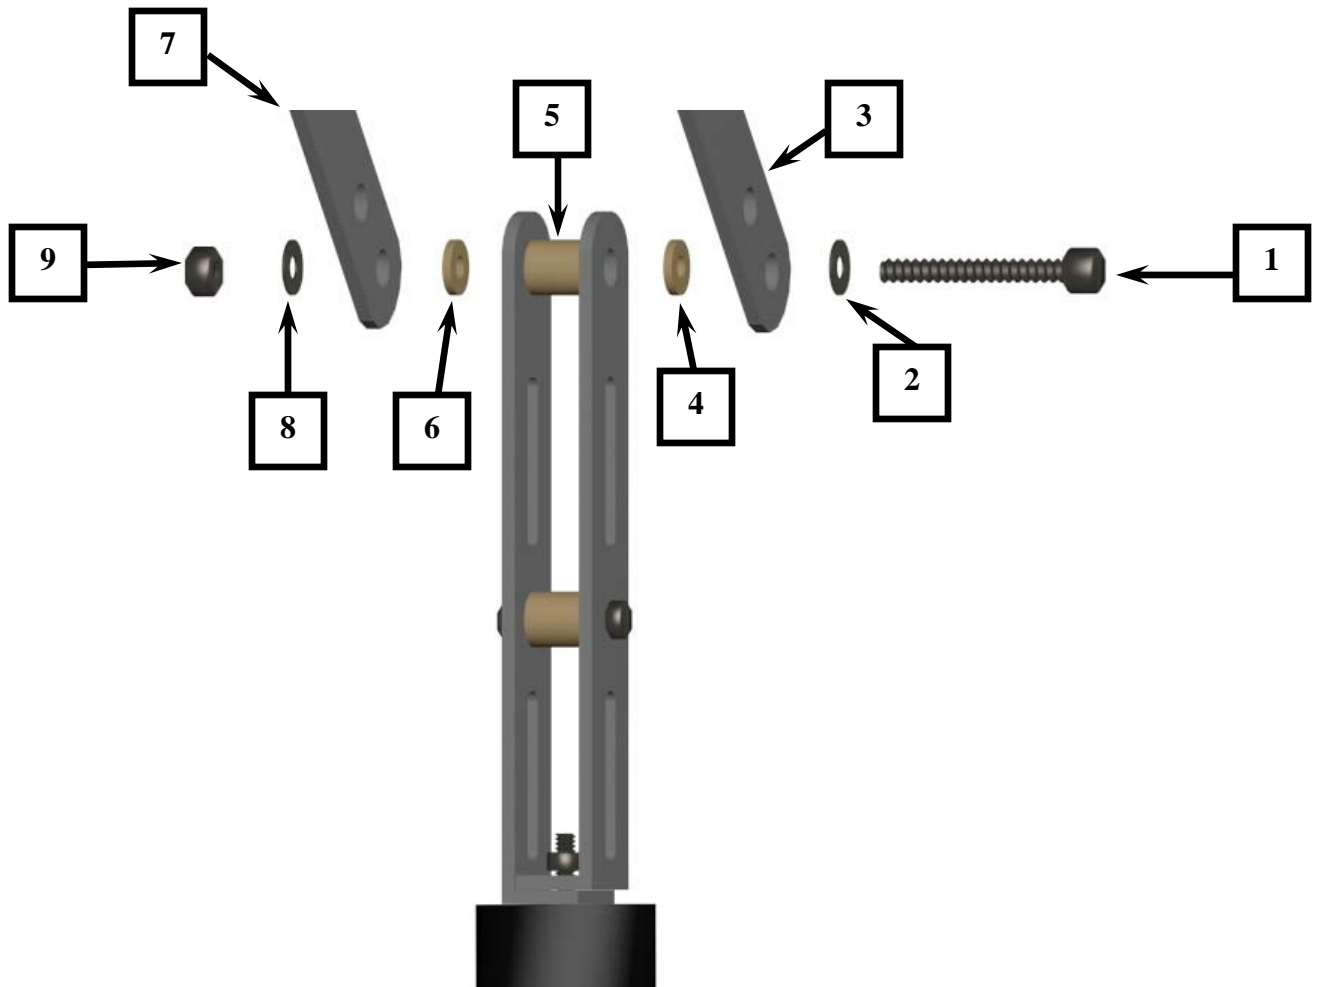

Figure 23
12. Attach the lower leg assembly to the upper leg assembly as shown in figure 23.